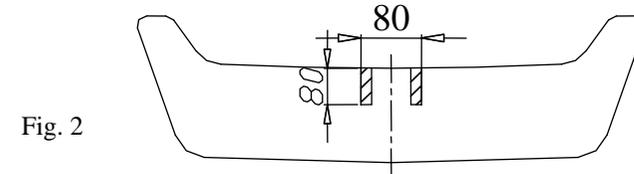

Fig. 2
4. Find under anti-noise mat in boot longitudinal holes on the left and right side (endmost of a car). To this holes put handles with nuts (pos. 6 and 7).
5. Left bracket (pos. 4) fix to the left chassis member and right bracket (pos. 5) fix to right chassis member through holes pos. A with handles (pos. 6 and 7). Next fix to body through holes pos. B
7. To in this way prepared brackets (pos. 4 and 5) fix main bar of the towing hitch (pos. 1) using bolts M12x35mm (pos. 8).
8. Reassemble the bumper after cut out fragments according to figure 2.